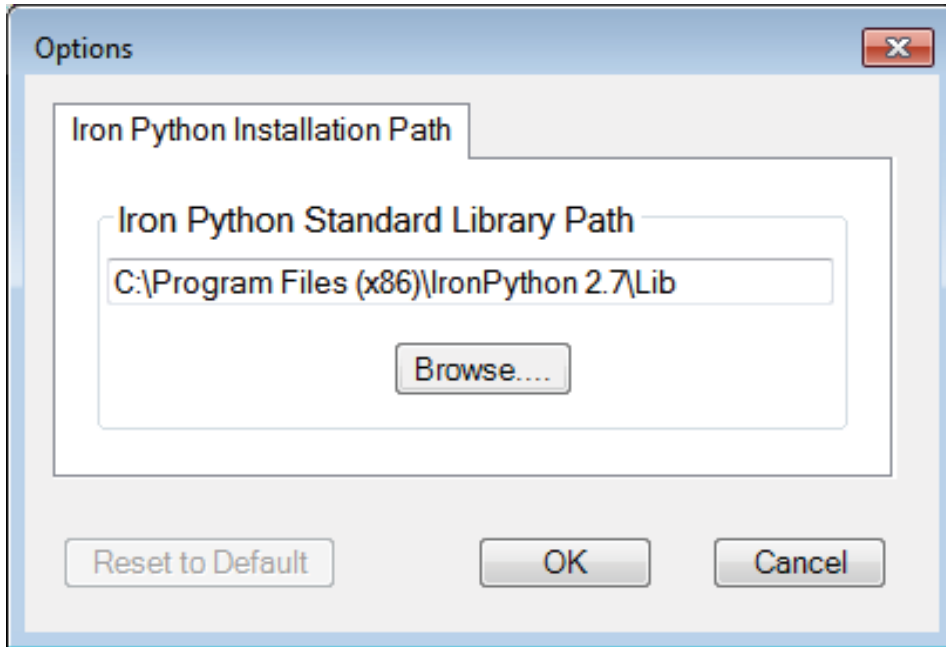

Figure 53. AD9375 SCES Options Window
- **Options** opens the **Options** window, shown in Figure 53. This window allows the user to set the path to the IronPython library folder. This setting is automatically populated with a path set during the installation process.